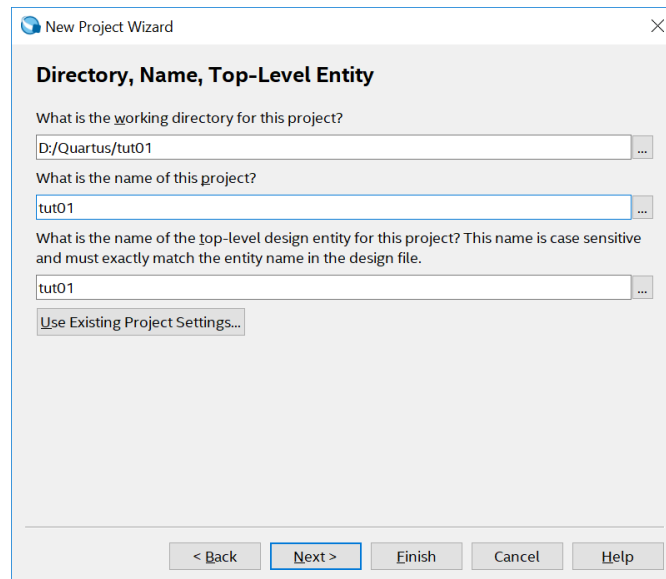

Figure 1: Assigning a working directory
- In the New Project Wizard pop-up window, select a working directory for the new project. Section 3 provides advice. Figure 1 shows an example where the working directory is on a USB memory stick. It is strongly suggested to not use the installation folder.